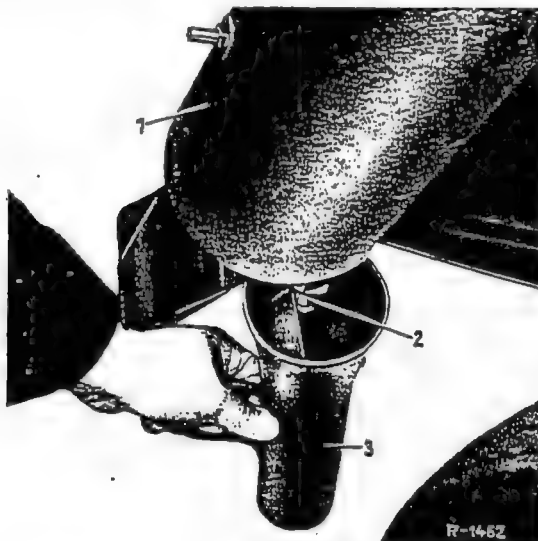

Fig. 32-12/10
2. After 300 miles (Schedule A), 1900 miles (Schedule B), and Every 1900 miles (Schedules C, D and E) drain condensation from the air reservoir. To do this, pull the drain valve (2) until there is no longer any condensation (approx. 2 sec) (Fig. 32-12/10).